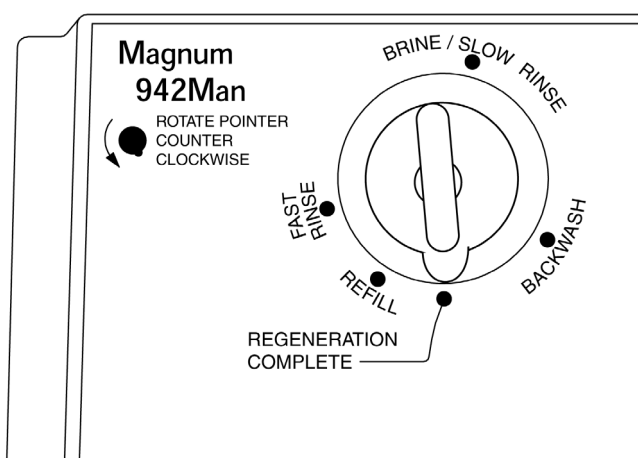

Figure 5.5
6. When the refill is complete move the indicator knob **COUNTERCLOCKWISE** to the **Regeneration Complete** position (Figure 5.5). The unit will now provide softened water.